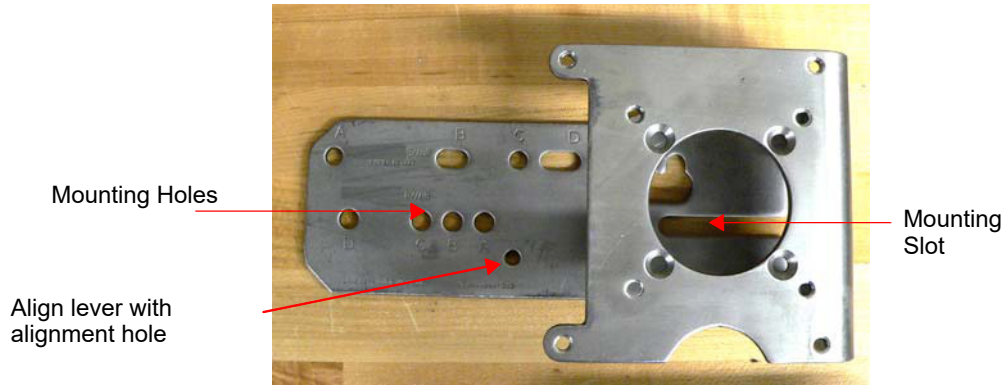

Figure 20 - Ensure Position Linearity
- Ensure the adjustable link turnbuckle is parallel to the valve stem. Verify that the hole in the lever aligns with the alignment hole in the bracket when the valve is in the closed position. Check that the bracket is mounted using the proper holes (Figure 20).